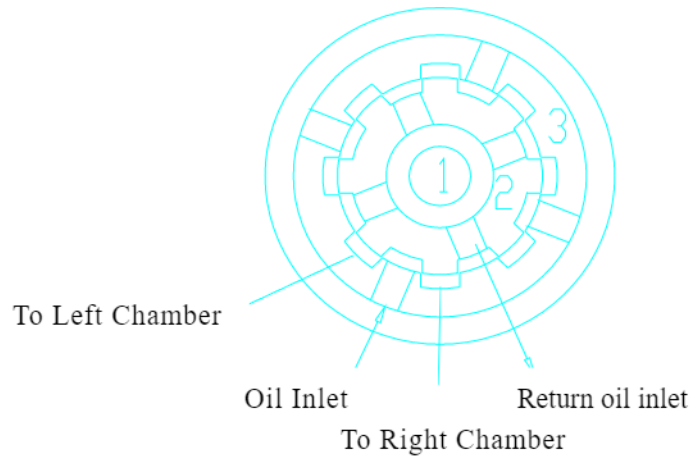

Figure 2
- The control valve is a normally open rotary valve and consisted of: torsion bar1, input shaft 2, valve bush 3 and other components. The hydraulic oil flows into the left and right oil chambers through the pre-opened clearance of the input shaft 2 and the valve bush 3. The structure is shown as Figure 2.